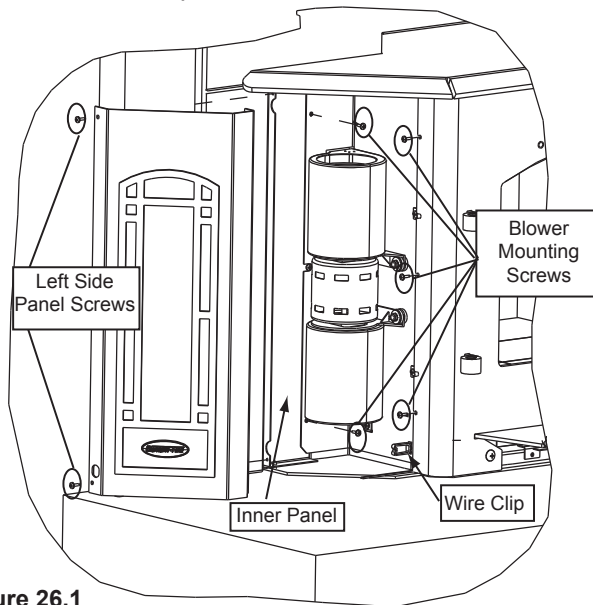

Figure 26.1
2. Slide blower mount with blower attached behind the face and secure with 5 screws provided, 3 on the right side and 2 on the left (**Figure 26.1**).